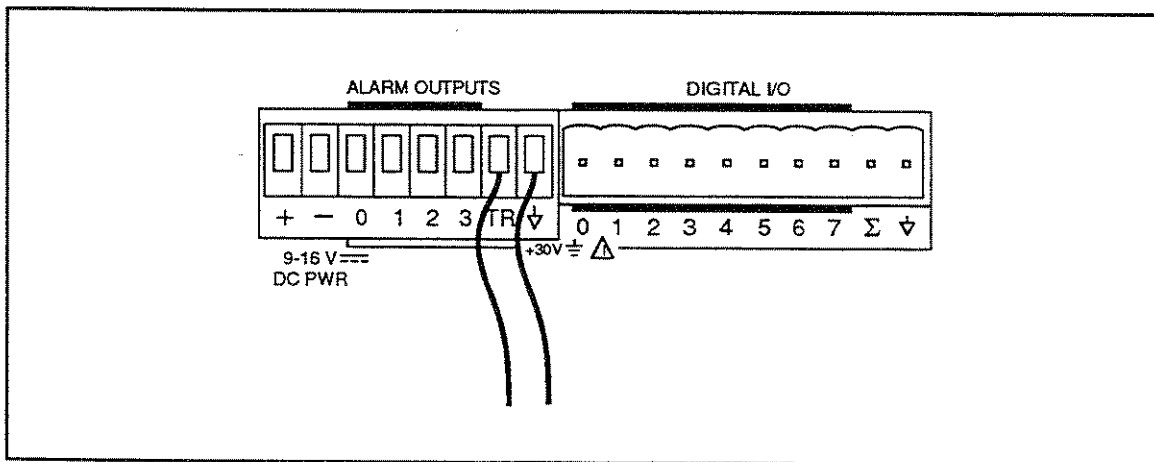

Figure 6-5. External Trigger Test
2. Remove the Alarm Output eight terminal connector module from the rear of Hydra and all external connections to it. Connect short wires (to be used as test leads) to the ground (\downarrow) and TR terminals. Leave other ends of wires unconnected at this time. Reinstall the connector. Refer to Figure 6-5.